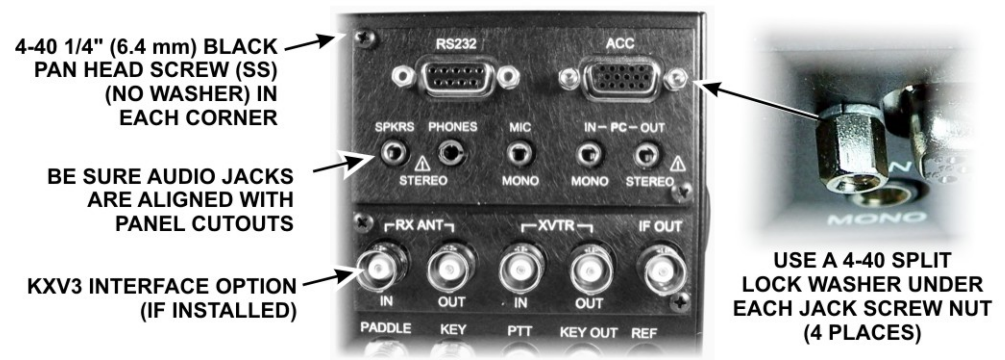

Figure 35. Mounting the KIO3 Connector Panel.
- The DB9 multi-pin connector on the KIO3 Digital I/O daughter board may have jackscrew nuts installed on the connector. (Jackscrew nuts are shown in Figure 35). If so, remove them. They will be reinstalled shortly.
- Install the KIO3 rear panel as shown in Figure 35.